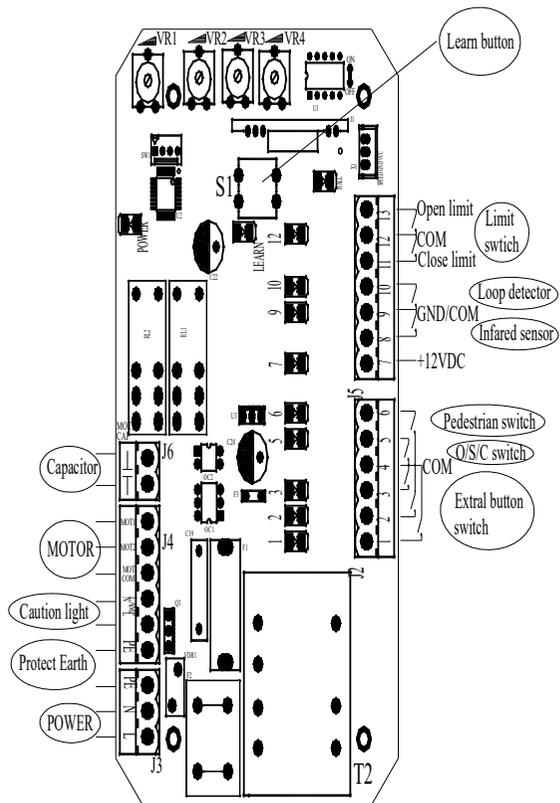

Fig.8
Make sure that the power is OFF before making any electrical connections. Remove the cover, perform the wiring (See Fig.8 and wiring notes for control board) and replace the cover again.
a. Adjust the Adjustable resistance (see Fig.8)
- Adding extra remote controls (Learn): Remove the cover, press and hold the learn button 'S1' (Fig.8) more than 2 seconds, then the 'LED of LEARN' (Fig.8) will be on, then press the remote control button which you want to use, the 'LED' will turn on about 2 seconds and then turn off again. The learning process is finished.
All these LED position see the Fig.8